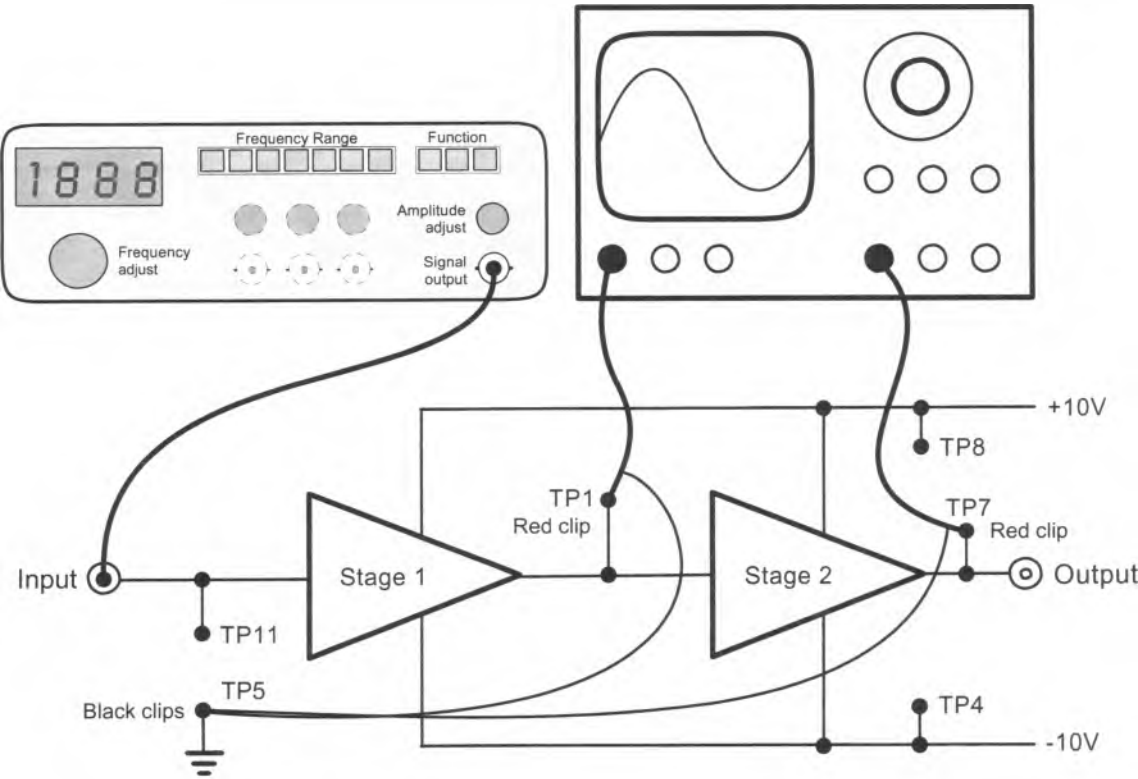

Figure 4
24. Connect the CRO's channel 1 to the input of the second amplifier stage (TP1) and its channel 2 to the output of the second amplifier stage (TP7) as shown in Figure 4 below.